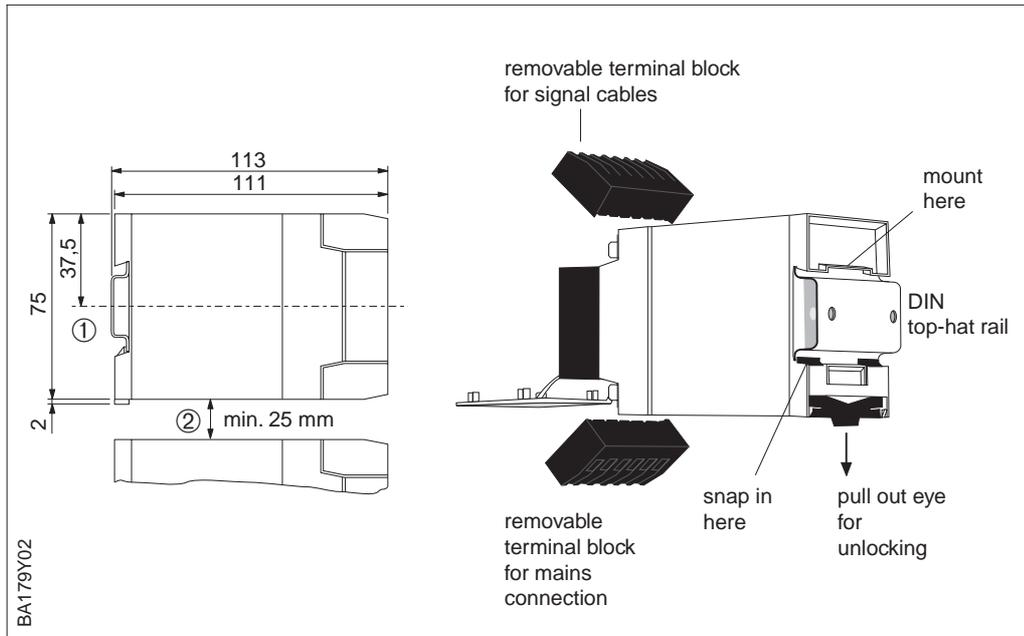

Fig. 2
- Observe the permissible ambient temperature (see technical data) and the minimum distance between instruments (Fig. 2)